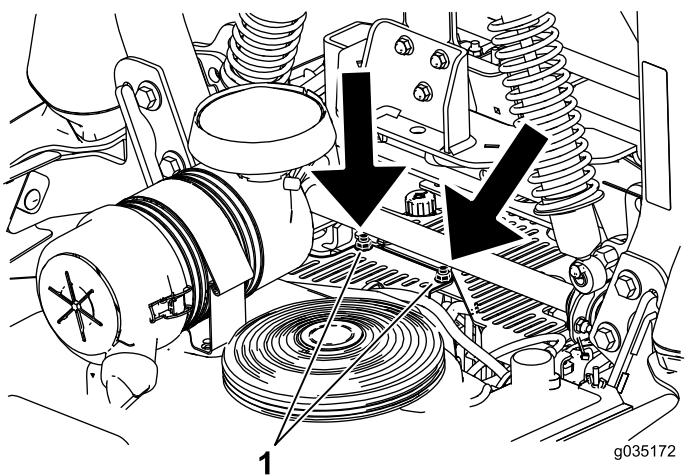

Figure 60
3. Remove the hydraulic-unit shroud by removing the 2 nuts shown in Figure 60.
5. Install the left-hand hydraulic-unit shroud (Figure 60).